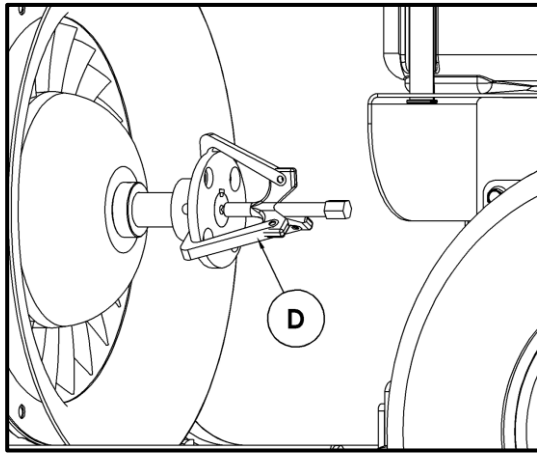

Figure 32 3-Jaw Puller on Turbine Coupling Flange
62. Use a 3 jaw puller [D, Figure 32] to remove the blower shaft coupling flange and keystone. **CAUTION** May require a MAP-Pro/Propane torch to heat the coupling flange.